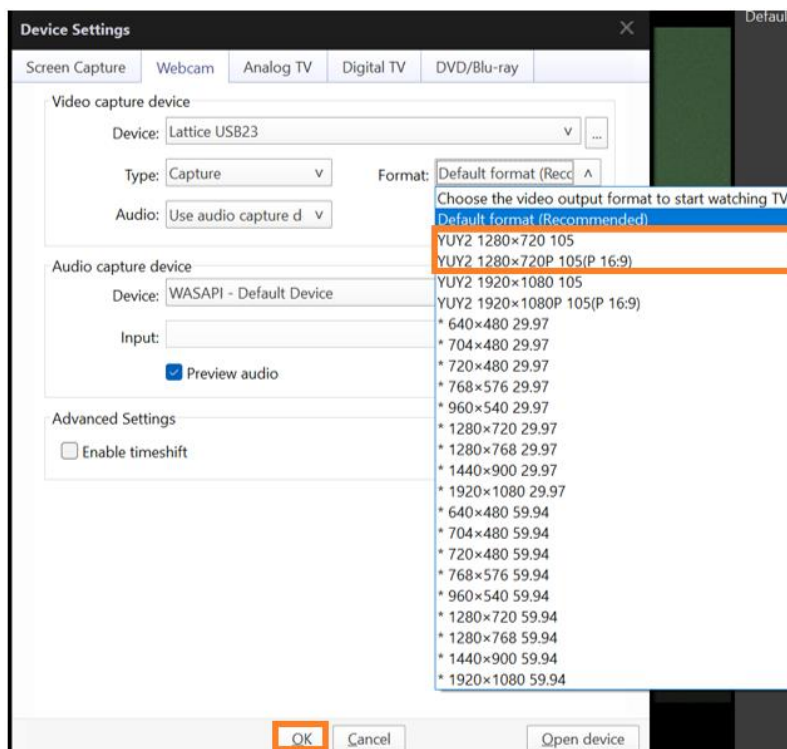

Figure 7.4. 720p Selection in PotPlayer
3. In the Format drop-down menu shown in Figure 7.4, select the **YUV2 1920x1080** Option. Then click **OK**.